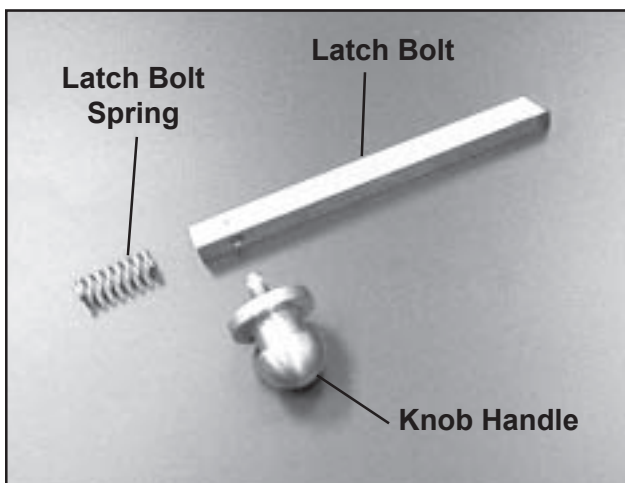

Figure 33. Latch Parts
4. Hold the door so that the hole from which the latch bolt was removed is down, and allow the spring to fall out (Figure 33).